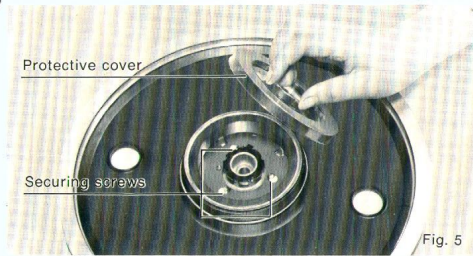

Fig. 5
4 Remove the protective cover from the rotor of the turntable platter. (See Fig. 5)
3) Do not remove the three screws securing the magnet. (See Fig. 5)